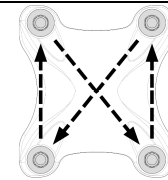

Fig.2 Alternate tightening of the bolts using an " X "
4. Apply grease to fixing bolts (ti-prep for titanium bolts). Tighten the face plate bolts ④ to the minimum torque necessary to secure the handlebar. Tighten by alternating ¼ turn at a time between fixing bolts in order to tighten stem cap evenly. Note: On stems using 4 fixing bolts, use an " X " pattern (see illustration on right of page Fig.2) so all 4 bolts reach torque simultaneously.